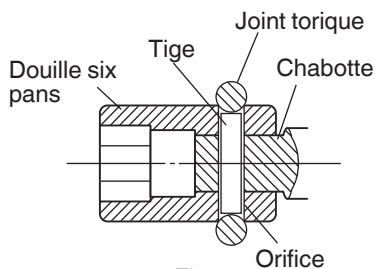

Fig. 4
(2) WR25SE: Tige, type joint torique (Fig. 4)